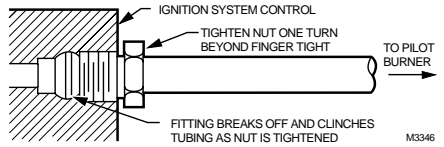

Fig. 7. Always use new compression fitting.
4. Slip the fitting over the tubing and slide out of the way as shown in Fig. 7.